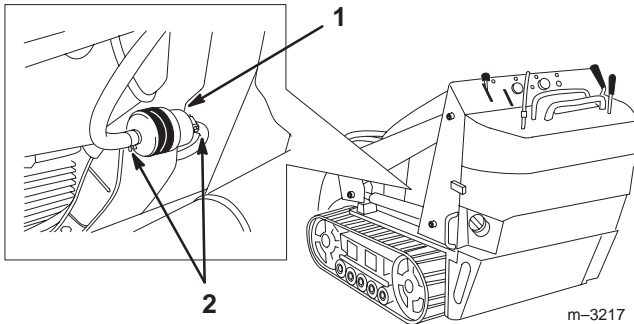

Figure 43
4. Clamp the fuel lines on both sides of the fuel filter (Fig. 43).
5. Squeeze the ends of the hose clamps together and slide them away from the filter (Fig. 43).